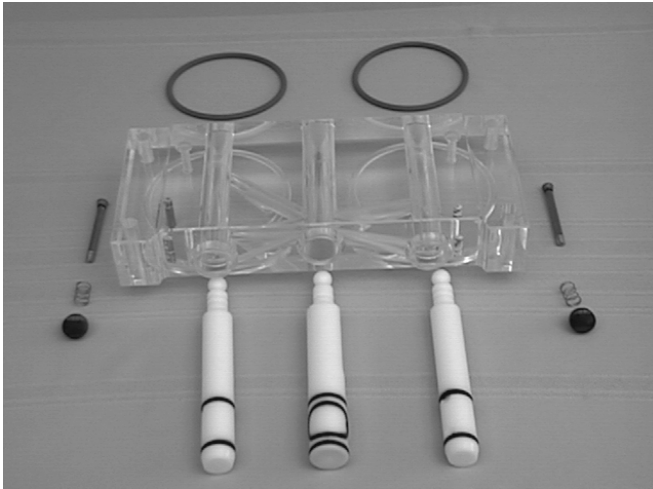

Figure 23. Front Door Assembly
- A. Mix Operation: The peristaltic mix pump contains one continuous mix pump hose. When looking at the face of the peristaltic mix pump, the left side of the hose is the suction or pickup. The right side of the hose is the discharge. Mix is drawn up the suction side of the hose and transferred thru the discharge side to the freezer (see Figure 23).